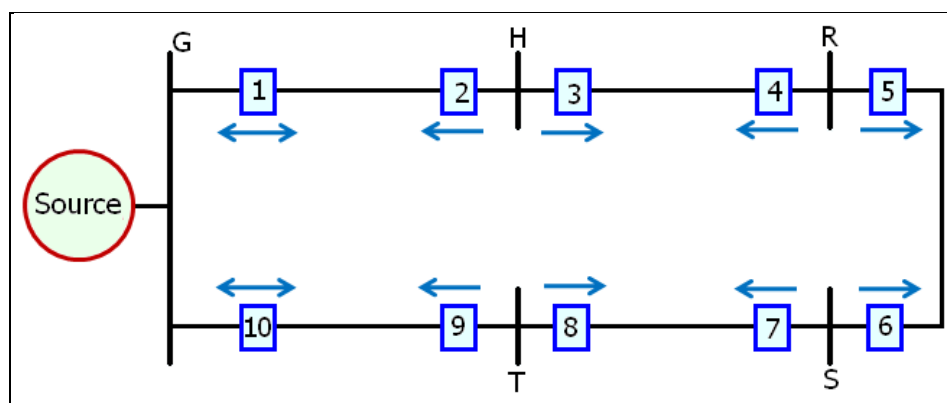

Fig. 2.6-2 Single Source Loop (Ring) Circuit and its Protection
A ring system with a single source is shown in Fig. 2.6-2 for the purpose of the following discussion on ring feeder protection. All breakers in this system will be considered closed during operation. All locations have directional overcurrent relays, except locations (1), (10); having nondirectional overcurrent relays.